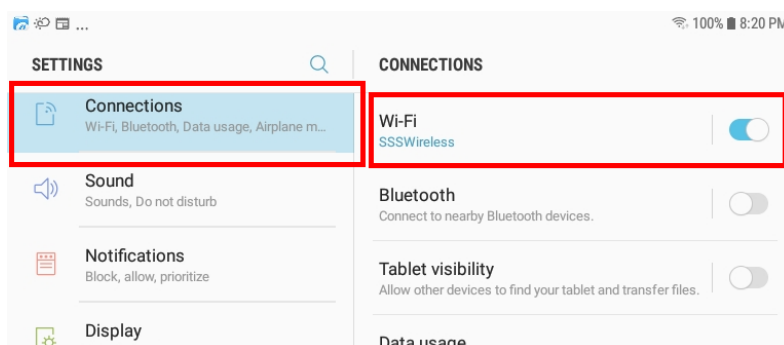

Figure 14 The Wi-Fi Connection page in the Android Settings app
- (3) Make sure power to your NCE Command Station and booster is on, the WFD-31 is connected to the command station and there is a locomotive on the track with a DCC address that you know. Both the red power LED should and the blue Cab Bus indicator LED should be alight.
- (4) Tap the Home button, and run the settings app on your Android phone.
- (5) Tap Connections on the left, then Wi-Fi on the right as Figure 14 (This may vary with different versions of Android).